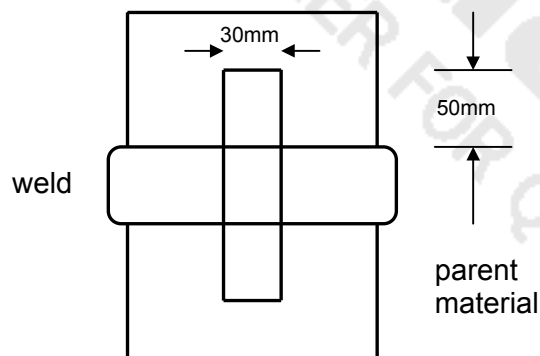

Fig. 1
- All areas of the weld must be prepared (Fig. 1)